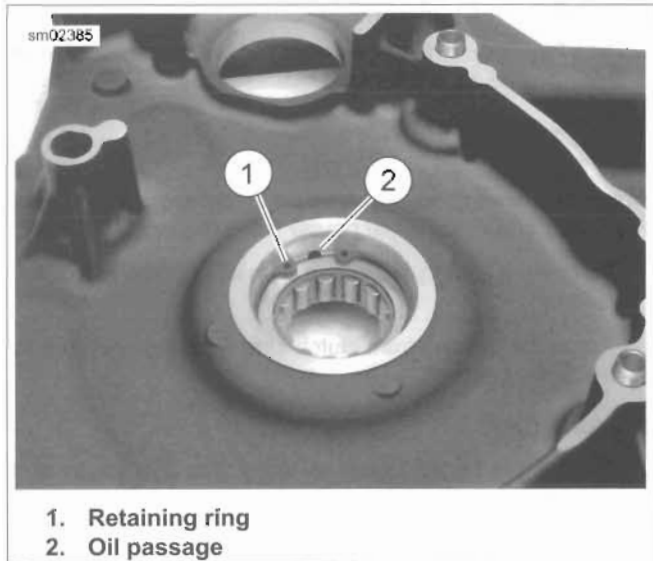

Figure 5-20. Retaining Ring Orientation
5. See Figure 5-20. Retaining ring (1) must be oriented as shown to prevent blocking of oil passage (2). Install retaining ring. Verify that the ring is fully seated in the groove and is properly oriented.